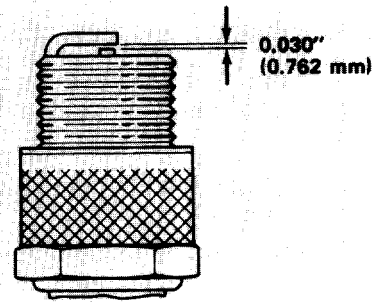

Figure 19
5. Set air gap between center and side electrodes at 0.030 of an inch (0.762 mm) (Fig. 19). Install correctly gapped spark plug w/gasket seal, and